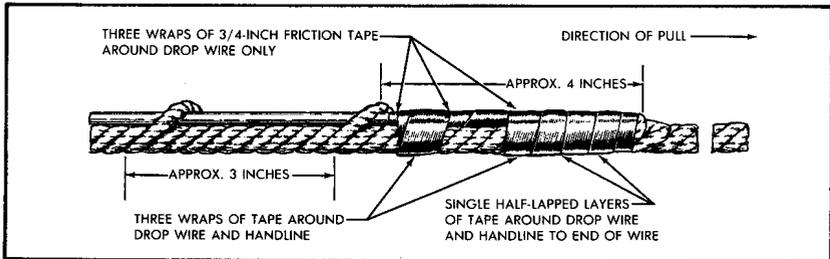

FIGURE 7. Alternate Tie to Prevent Sagging
NOTE: If the handline has been placed over a drive hook or other support on which a square knot would sag, fasten the wire to the handline as shown in Figure 7.
h. Standing on the ground, throw the free end of the handline over the power wires or power cables. Tie this end of the handline to the end of the drop wire by means of a square knot, serving the end of the wire around itself without sharp bends. If the handline has been placed over a drive hook or other support on which the square knot would snag, fasten the handline to the wire as shown in Figure 7.